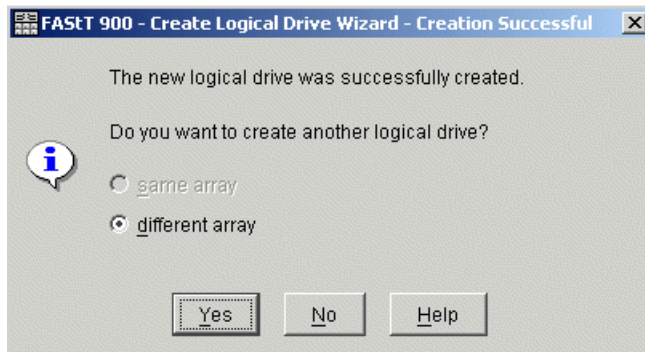

Figure 5-30 Continue creating logical drives
- f. You will then be asked if you want to continue creating logical drives or not. Click **No** if you have finished creating logical drives or wish to finish at a later time (see Figure 5-30).